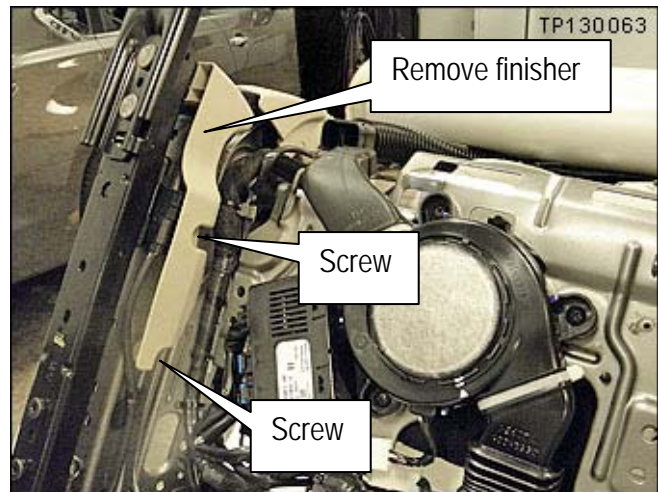

Figure 11
23. Remove the finisher shown in Figure 11.